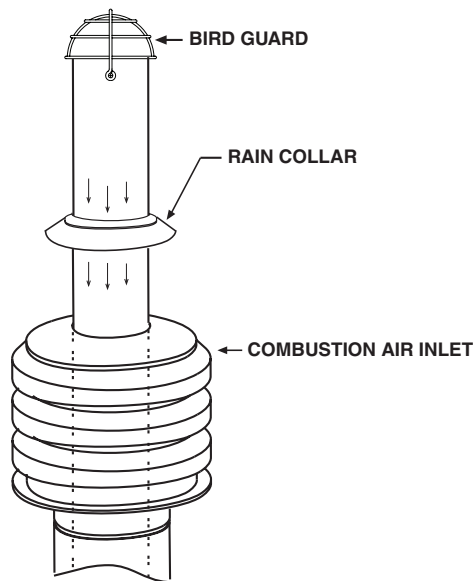

Figure 16. Combustion Air Inlet, Rain Collar, and Bird Guard
8. Install outdoor combustion air inlet, rain collar, bird screen, and field-supplied flashing (see Figure 16):